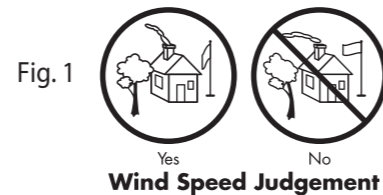

Fig. 1
2. Cut a portion of the patch to the size needed and round the corners. (See Fig. 1 & 2).
- Do not use the product if wind speed exceeds 20 mph or in windy conditions as illustrated in Fig. 1: